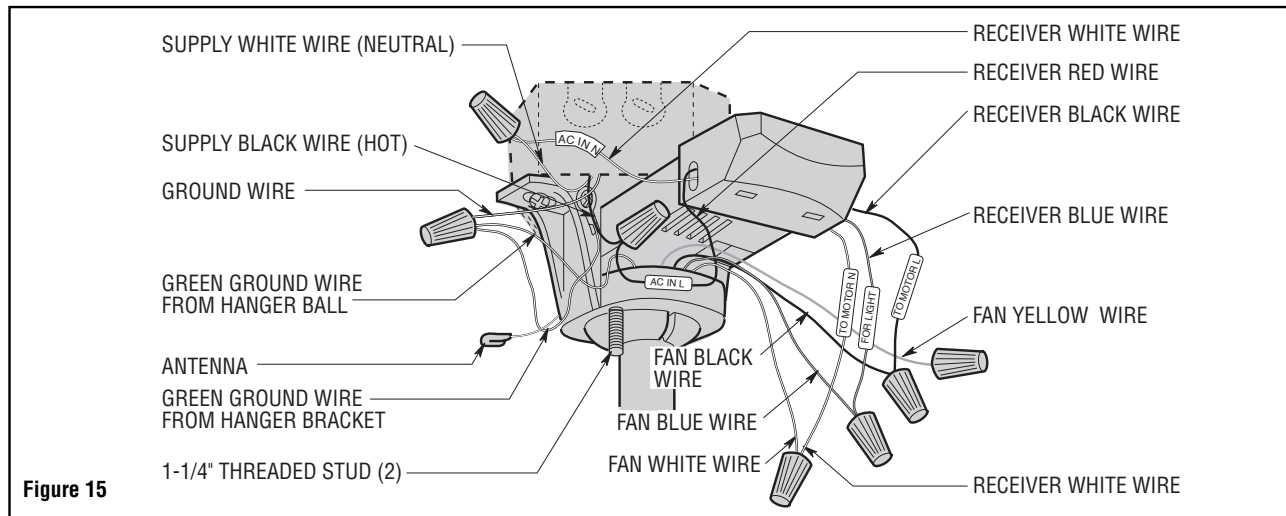

Figure 15
2. Position the supply wires to the left side of the outlet box (Figure 15); position the fan wires to the right side. Partially insert the remote control receiver (flat side up) until one end rests on the hanger ball as shown in Figure 15.
3. Refer to Figure 15 and 16 and connect the receiver wires to the supply wires and the fan motor wires as follows: